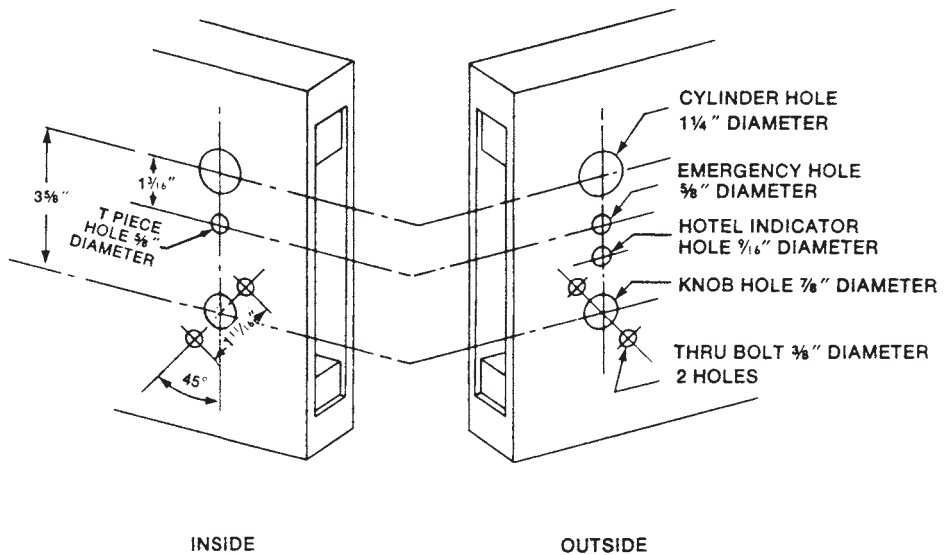

Figure 19.44 Electrified key-in-knob lock installation, Step 2.
2. Bore the 2½-inch hole at the point marked from both sides of the door. Bore the 1-inch latch unit hole straight into the edge of the door from the center point of the height line. Mortise the latch front and install the latch unit (Fig. 19.44).